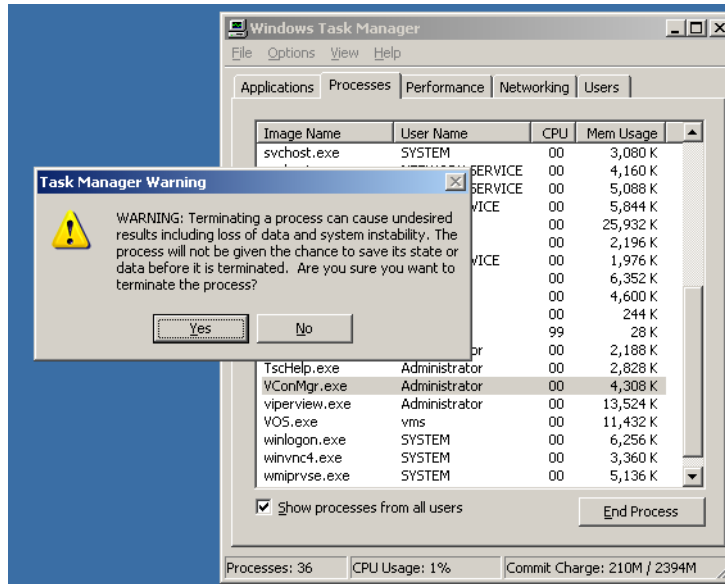

Figure 2-9 Task Manager Warning dialog
3. Select each process and click on the **End Process** button. A Task Manager Warning dialog will appear (figure 2-9)—click on the **Yes** button to terminate the process.